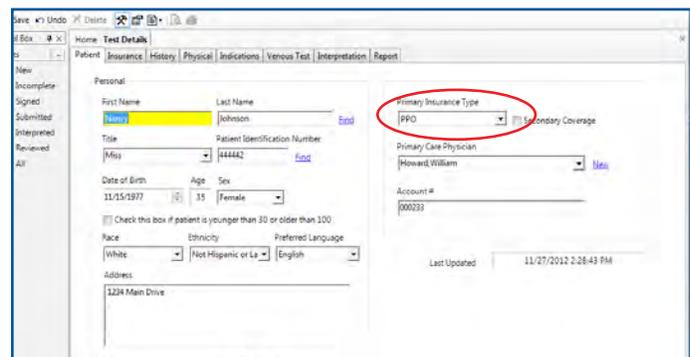

FIGURE 2.5 - Patient Tab and Primary Insurance Type Dropdown
5. Enter the patient’s insurance information. If the carrier is not available from the dropdown menu, click “New”, enter carrier information and save (Figure 2.5).